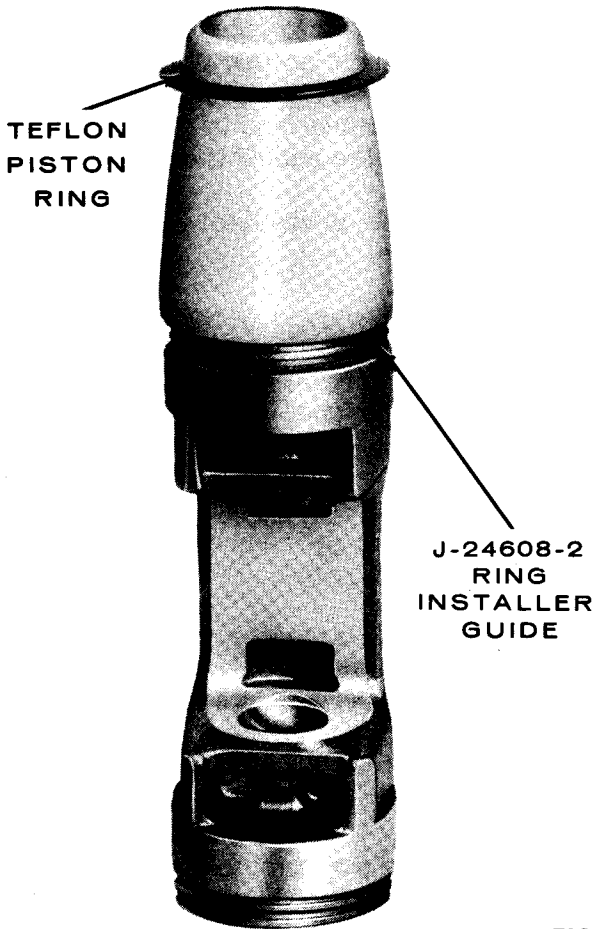

Figure 116—Teflon Piston Ring Positioned On Ring Installer Guide
3. Set the piston on end on a clean, flat surface and install the Ring Installer Guide J-24608-2 on the end of the piston (figure 116).
4. Install a teflon ring on the Ring Installer Guide J-24605-2 as shown in figure 116, with the dished or dull-side down and glossy side up.